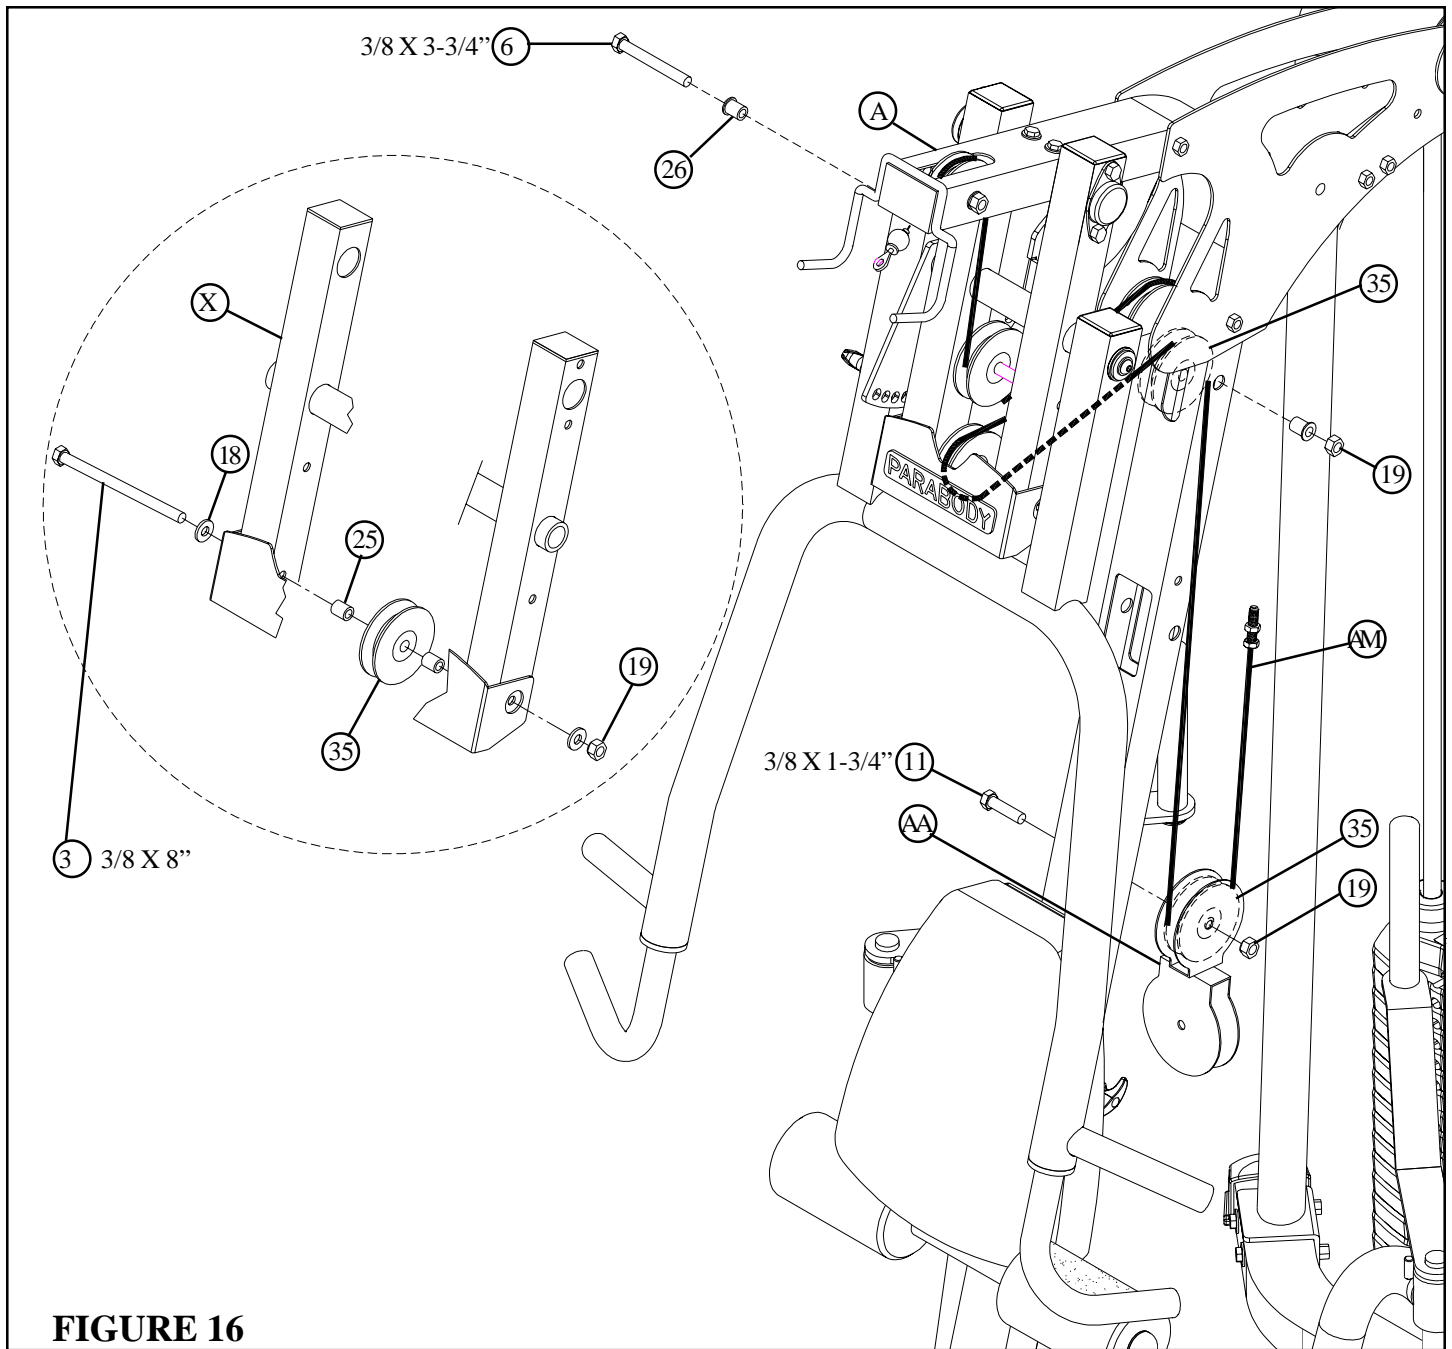

**FIGURE 15**
- Route the LAT CABLE (AM) through the PRESS ARM SUPPORT FRAME (X) and assemble one 3-1/2" PULLEY (35) to the FRAME PRESS ARM SUPPORT FRAME (X) using one 3/8 X 8" BOLT (3), two 3/8" WASHERS (18), two 3/8 X 1-1/4" SPACERS (25) and one 3/8" LOCK NUT (19). See FIGURE 15.
- Route the LAT CABLE (AM) around one 3-1/2" PULLEY (35) and assemble the PULLEY to the LEFT (D) and RIGHT (E) BOOM PLATES using one 3/8 X 3-3/4" BOLT (6), two 3/8 X 15/16" SPACERS (24) and one 3/8" LOCK NUT (19). See FIGURE 15. **(NOTE: Make sure the cable runs in the grooves of the pulleys.)**